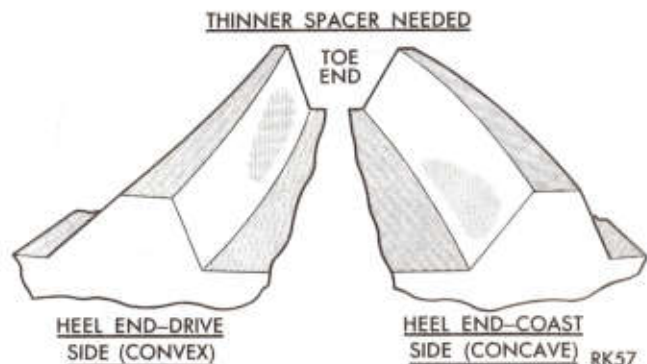

Fig. 36—Incorrect Tooth Contact Pattern (Decrease Spacer Thickness)
(4) If after observing the contact pattern you find it resembles that in (Fig. 36), the drive pinion is too close to the centerline of the ring gear, the pattern will appear low on the toe on drive side and low heel contact on coast side. To correct this type tooth